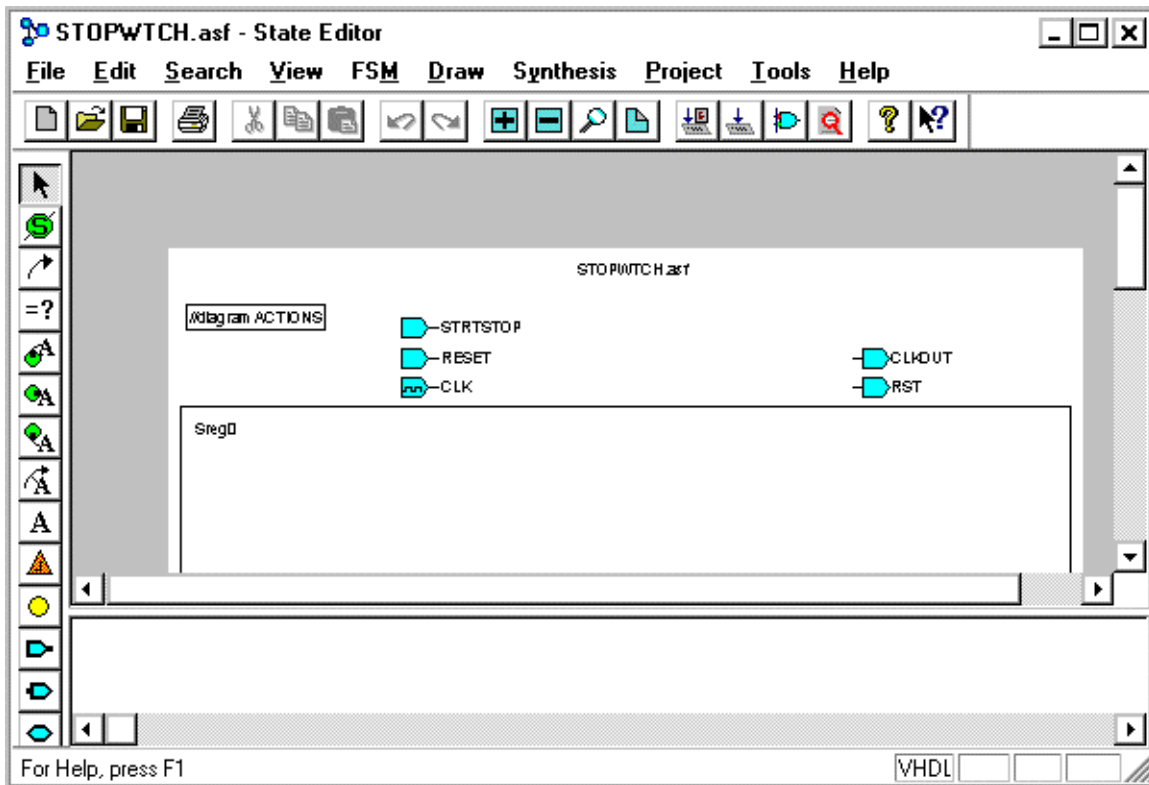

Figure 4. The State Editor with the necessary ports entered
- 10) The Design Wizard creates the “**STOPWTCH**” symbol and opens the “**State Editor**” with the necessary input and output ports entered (see Figure 4).